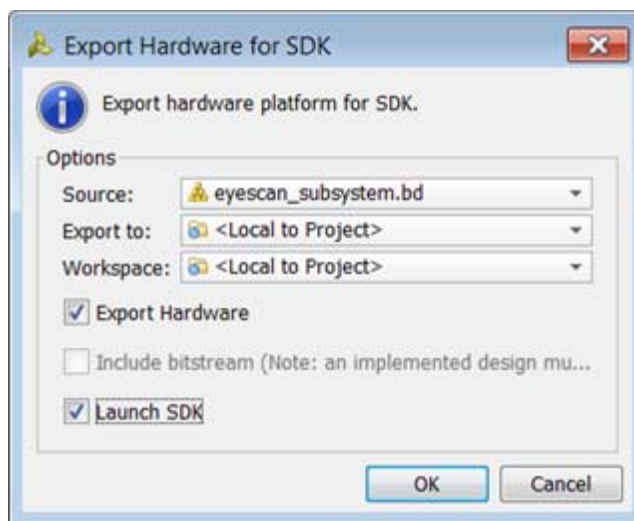

Figure 11: Launching SDK from Vivado
- After selecting **Export Hardware for SDK**, select the options shown in Figure 11. This launches the SDK with the hardware specification.